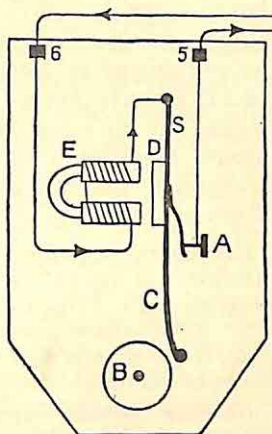

Fig. 38
Take off the box which covers the “works” of the bell (see fig. 38).
*Discussions.*—(a) How does an electric bell work? Trace out the circuit in fig. 38. What happens to the circuit when D is attracted to E? What then happens to E? And to D? Why is there an adjustable screw at A?